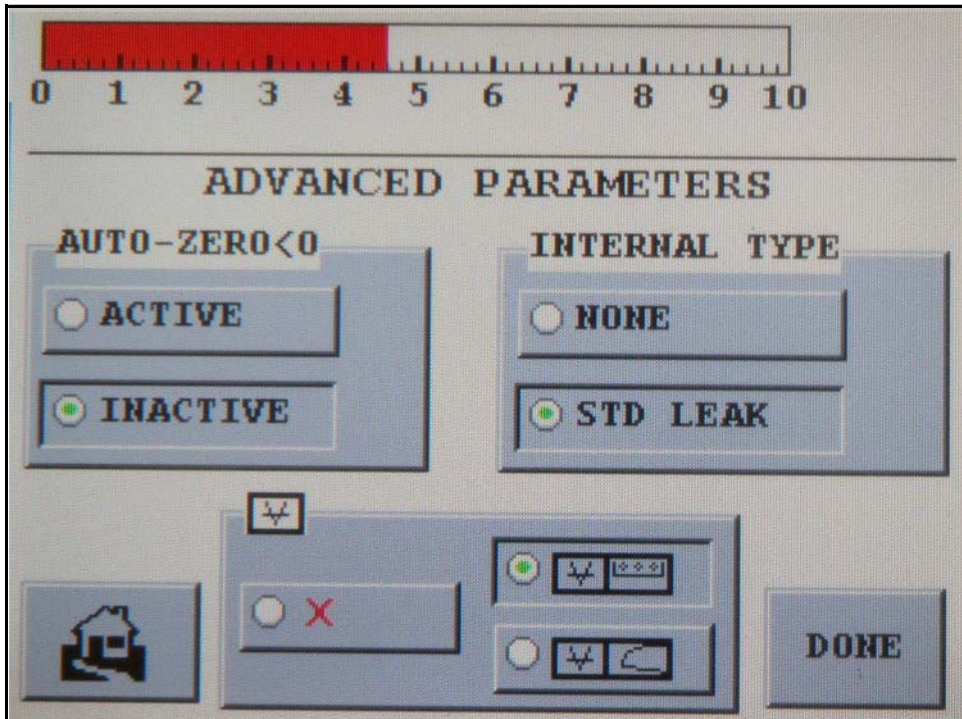

Figure 2-16 Advanced Parameters Screen
1. Press **Advanced Parameters** on the Set-Up screen and the Advanced Parameters screen appears (Figure 2-16).